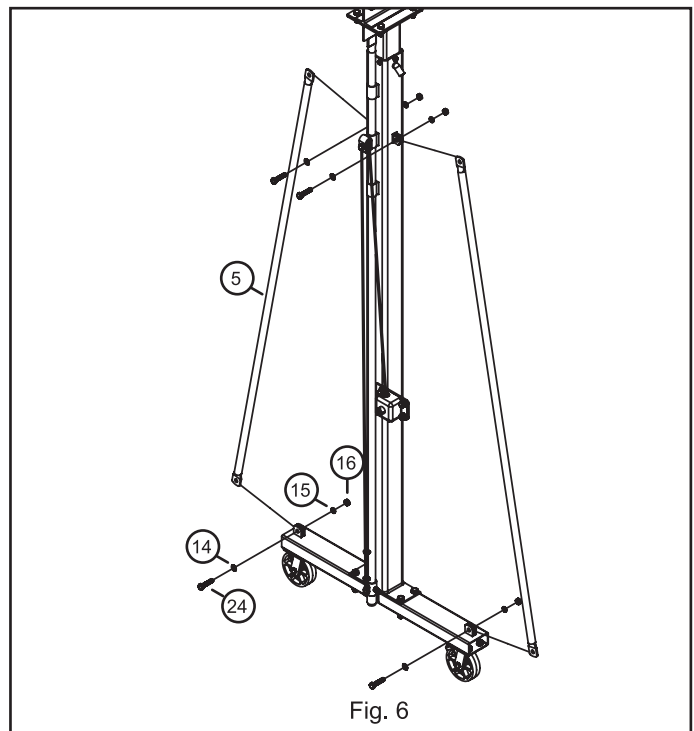

Fig. 6
STEP 6: Install the Brace Supports, Fig 6. Install the Brace Supports (5) between the Vertical Supports and the Base Cross Tube as shown in Fig 6. Place a Brace Support (5) between the ears on the Vertical Support and align the holes. Place an M12x50mm Bolt (24) with an M12 Flat Washer (14) through the holes and add an M12 Lock Washer (15) and **hand-tighten** an M12 Nut (16) on the opposite side. Place the other end of the Brace Support (5) between the ears on the Base Cross Tube and align the holes. Place an M12x50mm Bolt (24) with an M12 Flat Washer (14) through the holes and add an M12 Lock Washer (15) and an M12 Nut. Tighten the fastener at the top and bottom of the Brace Support (5) to between 55 and 65 ft-lbs (75 to 88 Nm).